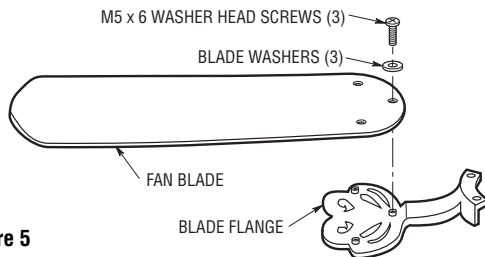

Figure 5
8. Mount blade flanges to fan blades using three M5 x 6 washer head screws and three blade washers (Figure 5).